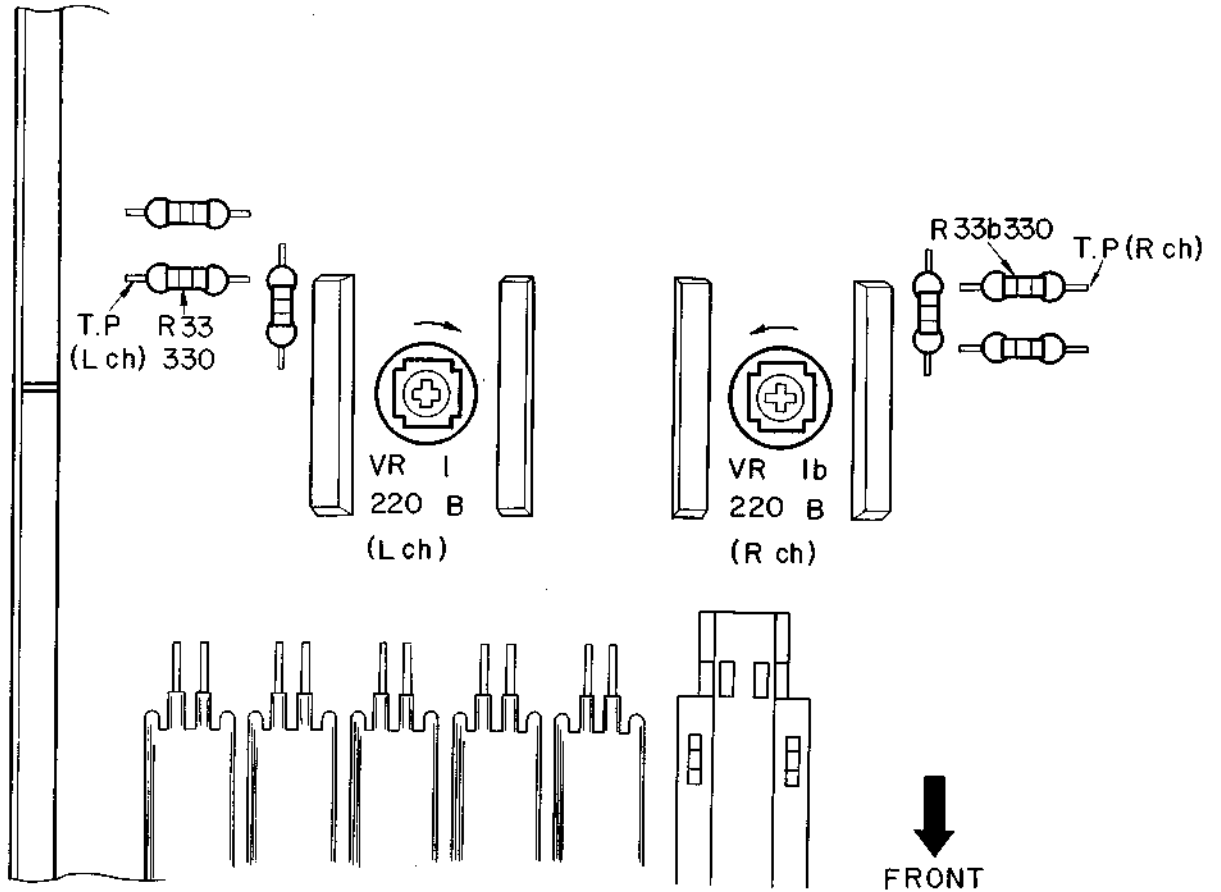

Fig. 4 Adjustment Points
1. CENTER OFF-SET VOLTAGE ADJUSTMENT (Refer to Figs. 4, 5)